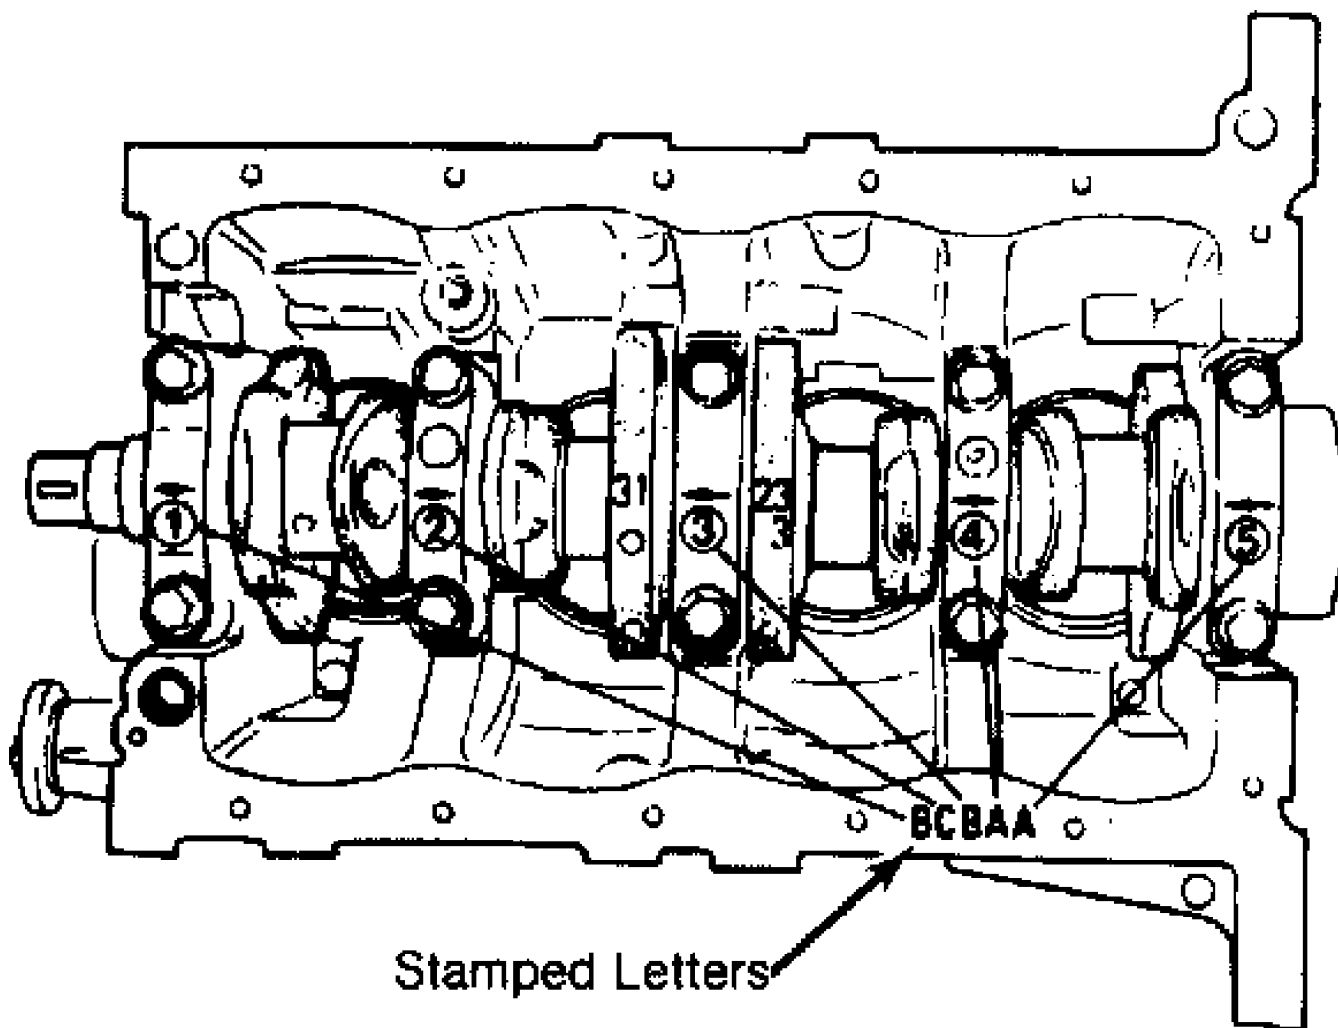

Fig. 18: Locating Letters Stamped On Cylinder Block
8) Determine bearing cap bore diameter with bearing removed. Bearing cap bore diameter is determined by letter ("A", "B" or "C") stamped on cylinder block mating surface. See Fig. 18. See appropriate BEARING CAP BORE DIAMETERS table.